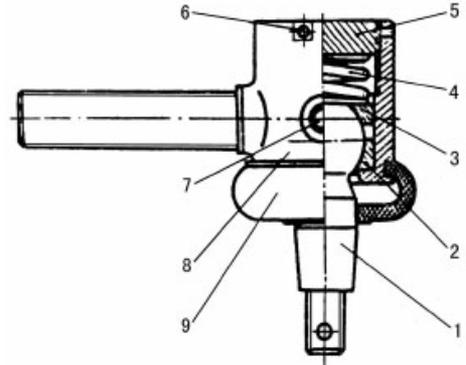

Fig. 6-14 2WD fore axle assembly
The steering connector is shown as Fig. 6-14 with ball-head pin (1) and ball-head pin seat (2). They can relatively rotate in all directions in space, the ball-head pin seat is pressed at pull rod connector (8). Ball-head pin seat end is covered with a cap (3) and pressing spring (4). They are pressed with a spiral cover(5), a lock bolt (6) passes the screw cover (5) to avoid it is loose. Its lower end is put in oil seal sleeve of connector (9), and lubricating oil is filled into pull rod connector hollow by grease nipple(7).